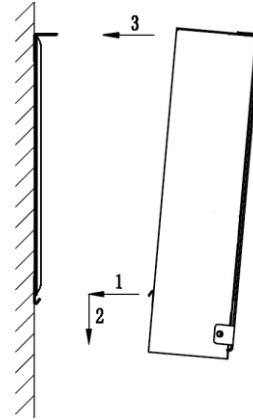

Figure 5
Step 5: Hang the appliance on the hooks at the bottom of the bracket and push the top of the appliance into the mounting bracket. Now fix the appliance to the mounting bracket by refitting the two M4×8 screws which were removed in step 1 (Figure 5).